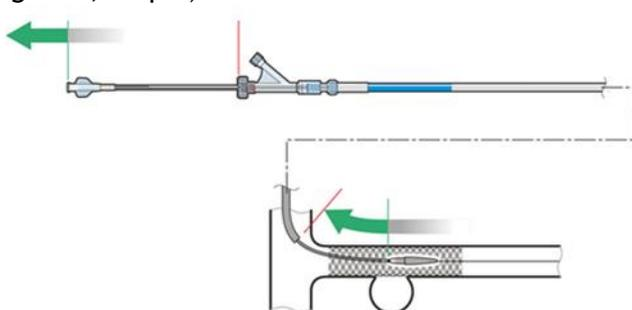
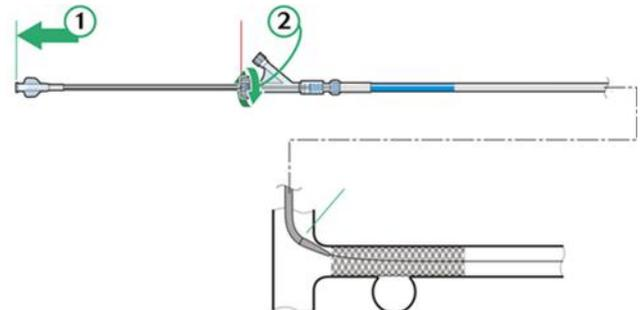

Figure 7. Retrieval of the tip
Figure 8. Tip back in its original position
1. When fully deployed, safely retrieve, under fluoroscopic control, the pusher in its initial position in order to bring the tip in front of the sheath (see Figure 7 and Figure 8, Step 1) and lock the Y hemostasis valve (see Figure 8, Step 2).